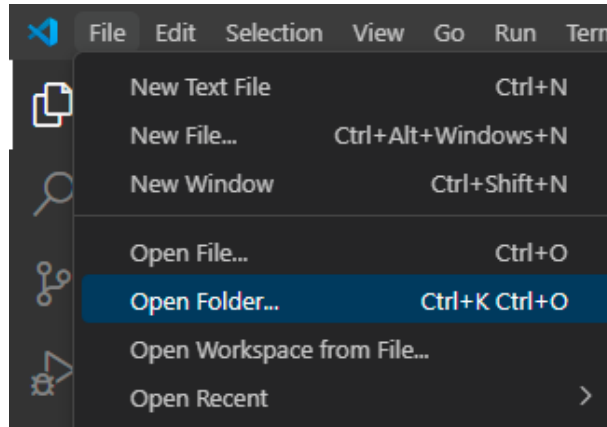

Figure 11: Opening VSCODE environment.
3. Click on “File”, “Open Folder...” as is shown in Figure 11: